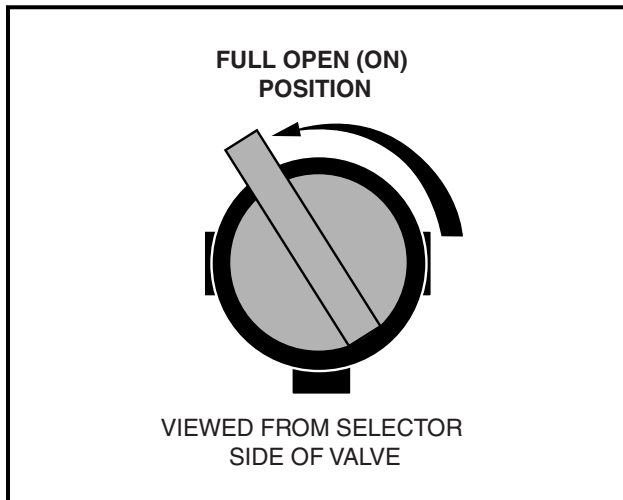
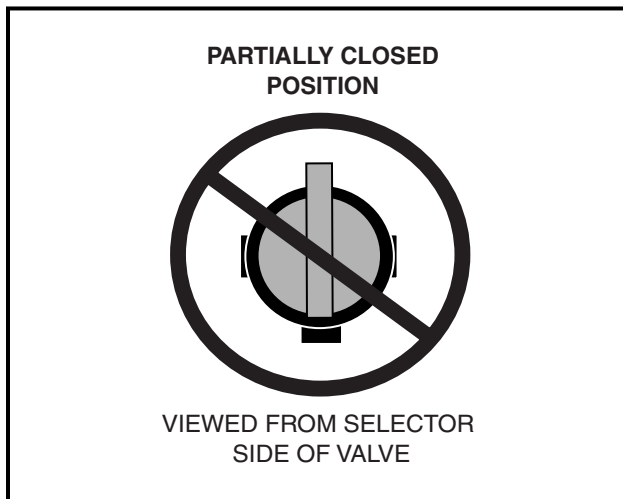

Figure 3-4 Fuel Valve – Open
Figure 3-6 Fuel Valve – Partially Closed
5. Completely open fuel shut-off valve (**Figure 3-4, Page 3-3**). A partially closed fuel valve (**Figure 3-6, Page 3-3**) combined with the use of the choke, can result in a fouled spark plug and engine failure.